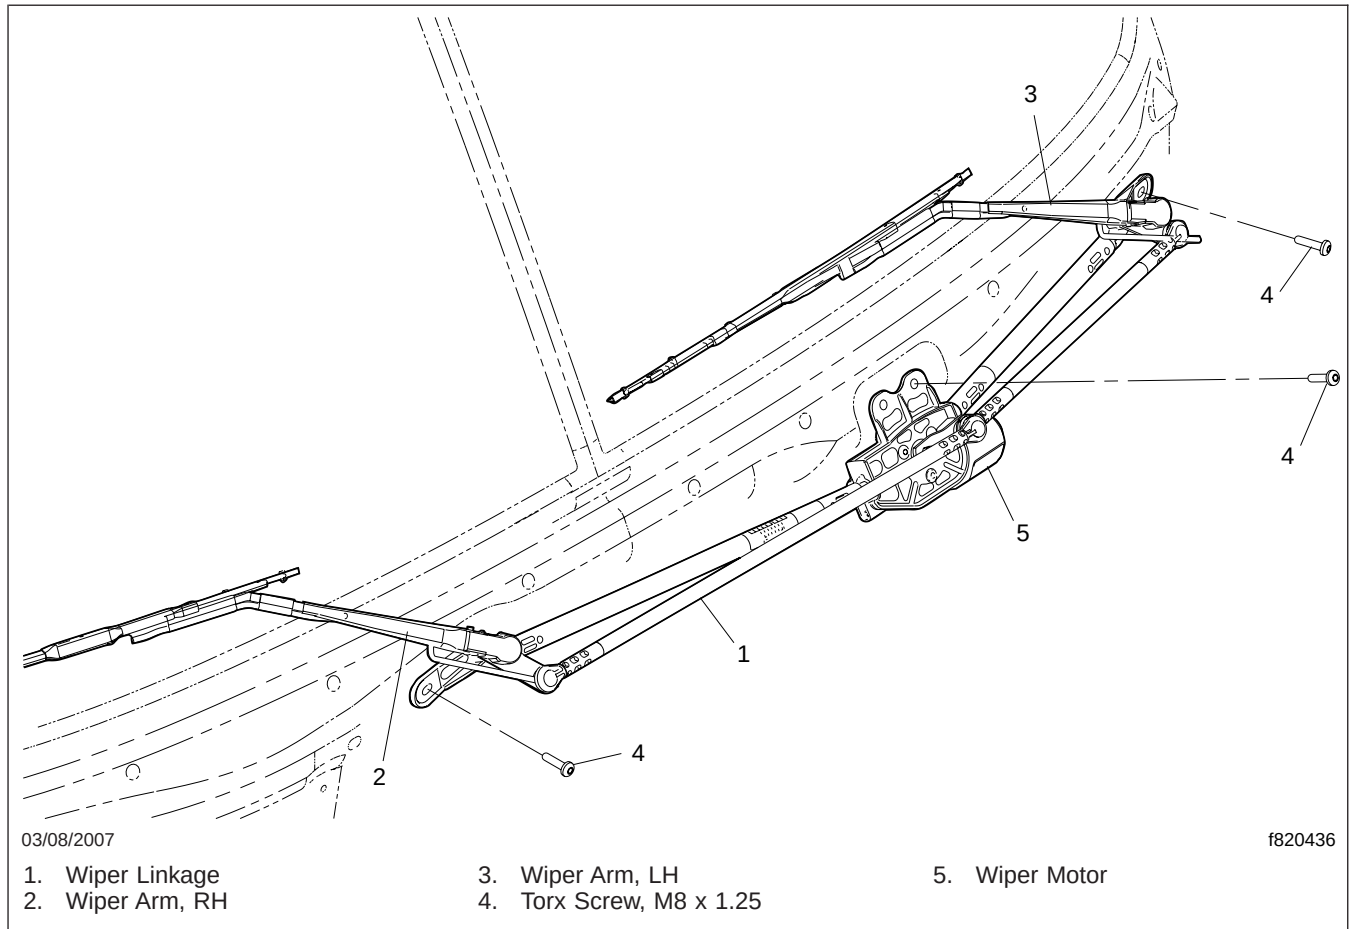

Fig. 6, Wiper Linkage Installation
11. Remove the Torx® screws that attach the wiper linkage to the cab. There are two screws at the wiper motor bracket and one at each end of the linkage; see Fig. 6.
3. Attach the linkage to the cab front wall with two Torx screws at the wiper motor bracket and one at each end of the linkage; see Fig. 6.